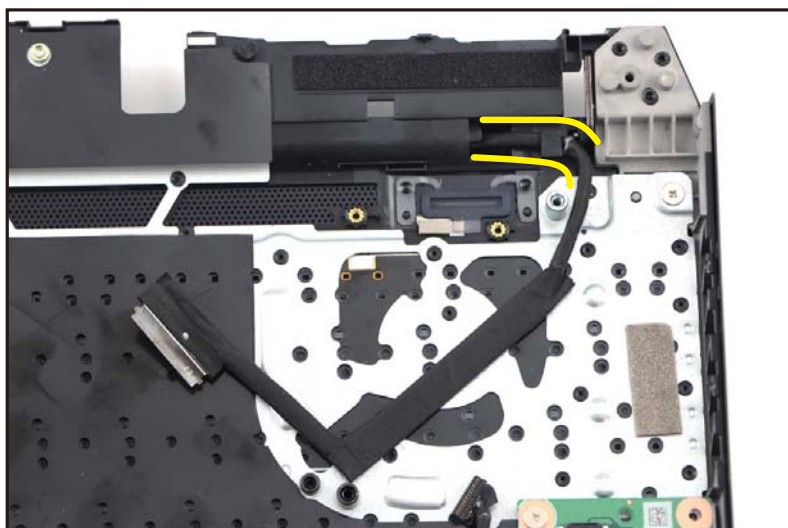

Figure 1-36. LCD Module Removal
1. Unroute the eDP cable from the cable guides as shown in Figure 1-36.